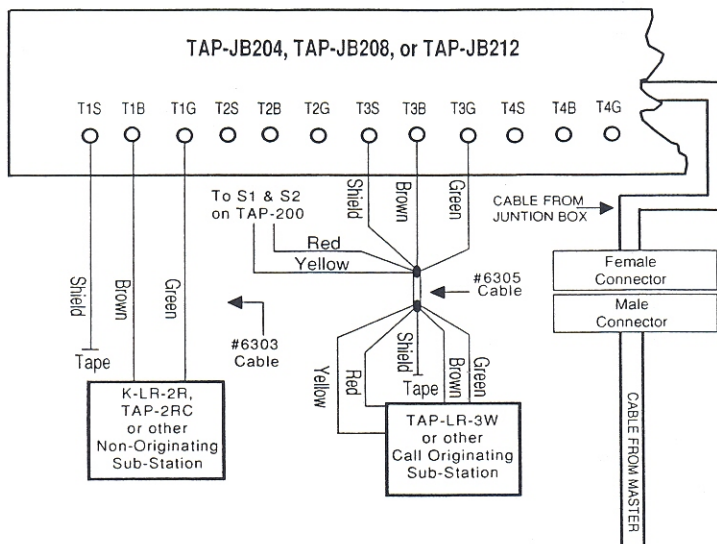

Figure 6. Junction Box wire connections
3. **Junction Box:** All Sub-Stations connect to the junction box, which in turn connects to the Master. If a Sub-Station has a call button, the button connects directly to the S1 & S2 terminals on the TAP-200 (see Figure 6).